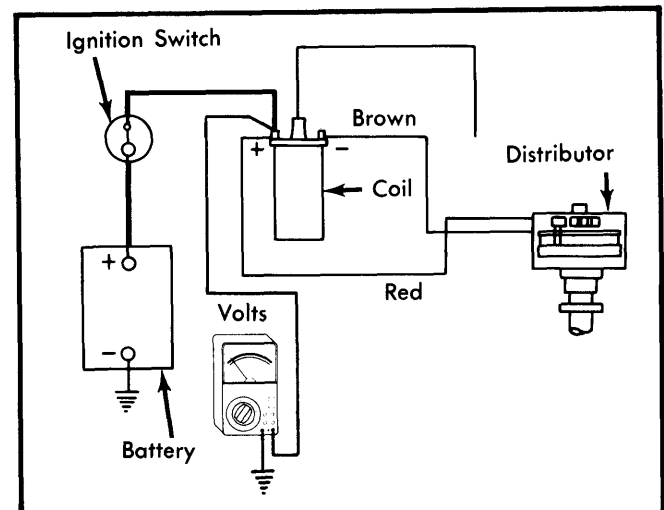

Fig. 5 Checking Primary Ignition Voltage
1) Turn engine over until sensor coil is centered between 2 teeth of trigger wheel. Connect voltmeter positive lead to ignition coil positive terminal (red wire). Connect voltmeter negative lead to ground. See Fig. 5.